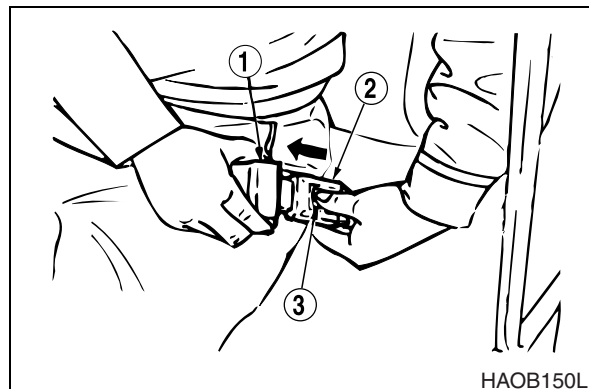

Figure 101
Press button (3, Figure 101) in center of buckle (2) and pull out belt (1) to unlock.